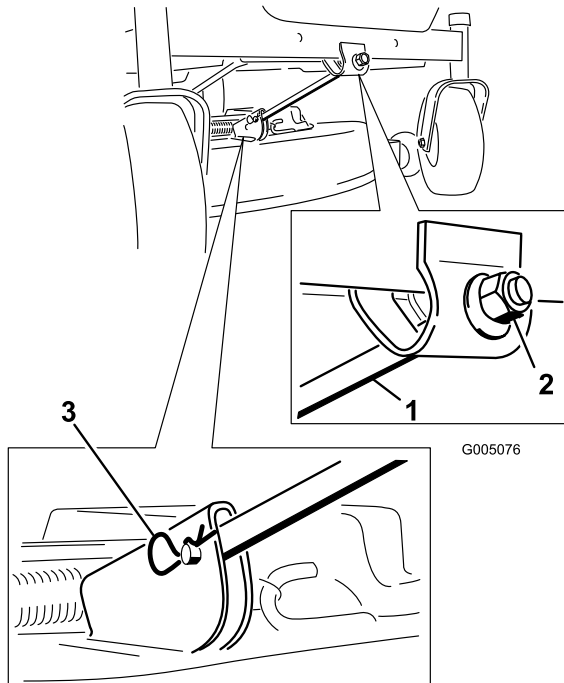

Figure 124
4. Remove the hairpin cotter from the front support rod, and remove the rod from the deck bracket (Figure 124).